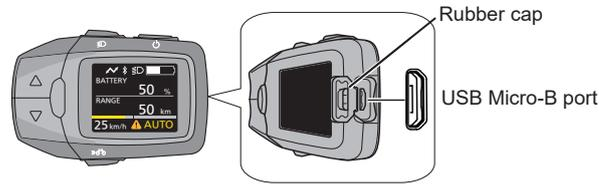

Fig. 1
- 1) **Open the cover of the USB Micro-B port on the side display of the console. (Fig. 1)**